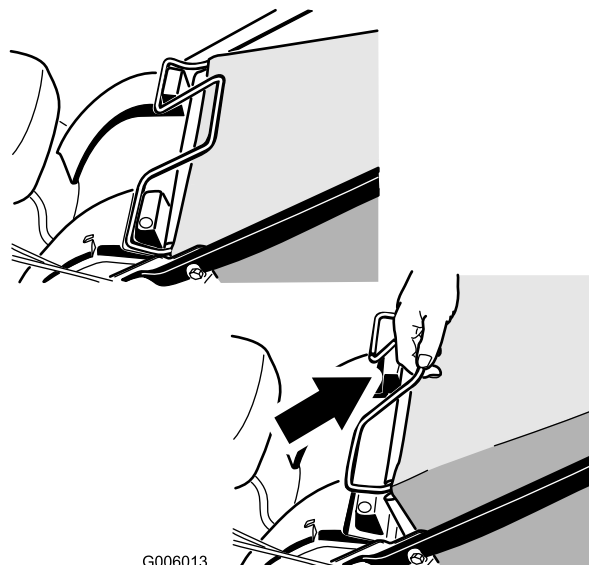

Figure 30
1. Lift the grass bag handle out from the grooves at the top of the mower and remove the bag from the mower (Figure 30).